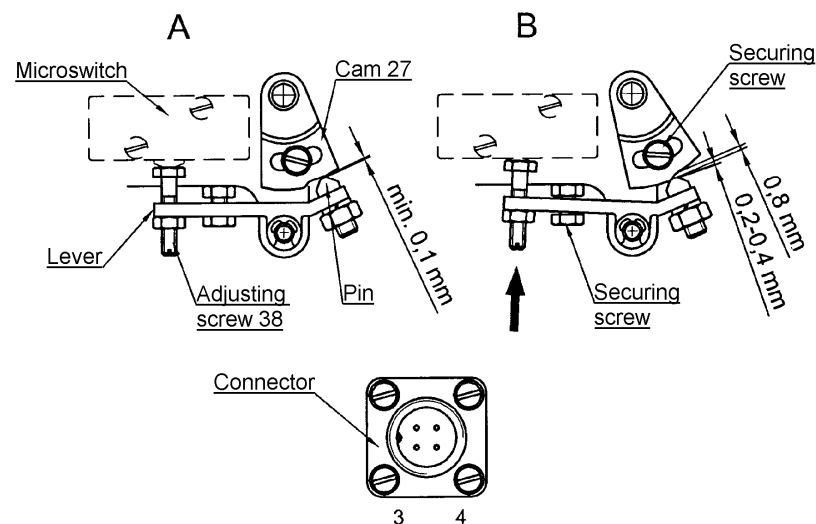

Figure 11-20 BETA-range microswitch adjustment
b) Adjust the setting screw **38** on the lever contacting the microswitch such way, that the microswitch switches on when the pin is 0,8 mm (0.0315 inch) above the cam base **27** (figure 11-20). This adjustment ensures correct microswitch switching at right pin position.
If this clearance is less, adjust it by adjusting element – figure 11-20 – and this screw is then locked by tightening the nut.
- 2 Moment, when the electric circuit is energized, shall be adjusted only by turning the cam 27 (figure 11-20).
It is possible to check when the circuit is energized, using power supply (max. 12V) and a suitable lamp connected to connector pins 3 and 4 (figure 11-20).